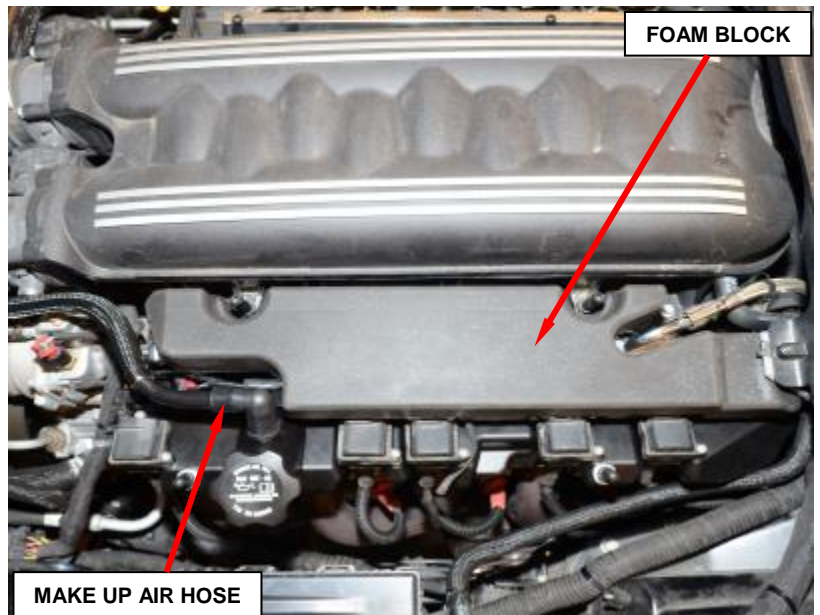

Figure 26 – Foam Block / MUA Hose
30. Remove and save the foam block (Figure 26).
31. Remove and save the Make Up Air (MUA) hose (Figure 26).